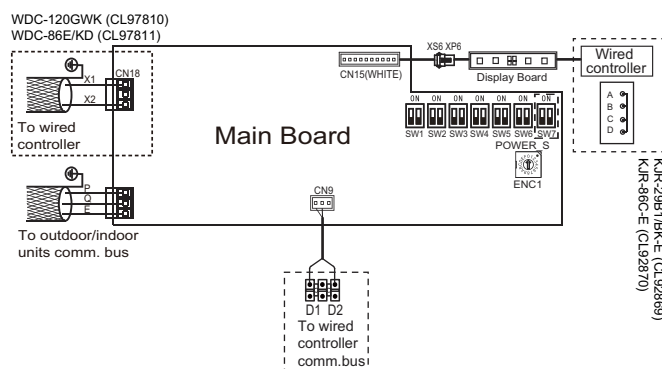

Figure 6.10
- The X1/X2, D1/D2 ports on the sides of the main control board and the unidirectional communication port (display board side) are for different types of wired controllers (see Figure 6.10).
Use the protection casing (accessory 15) to cover and protect the terminal, and bind it firmly with tightening band (accessory 12). See Figure 6.10.